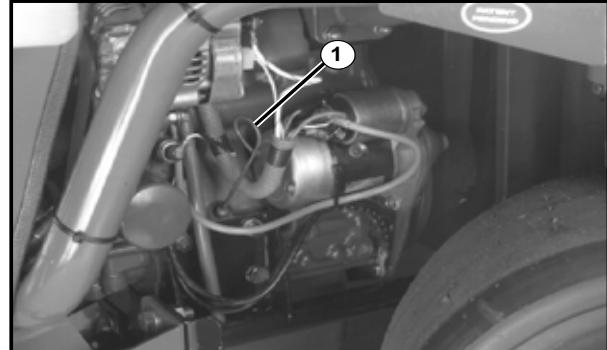

Figure 9.11.1
- 3 Remove the filler cap (Fig. 9.11.2) and refill with fresh oil up to the maximum level on the dipstick (Fig. 9.11.1).